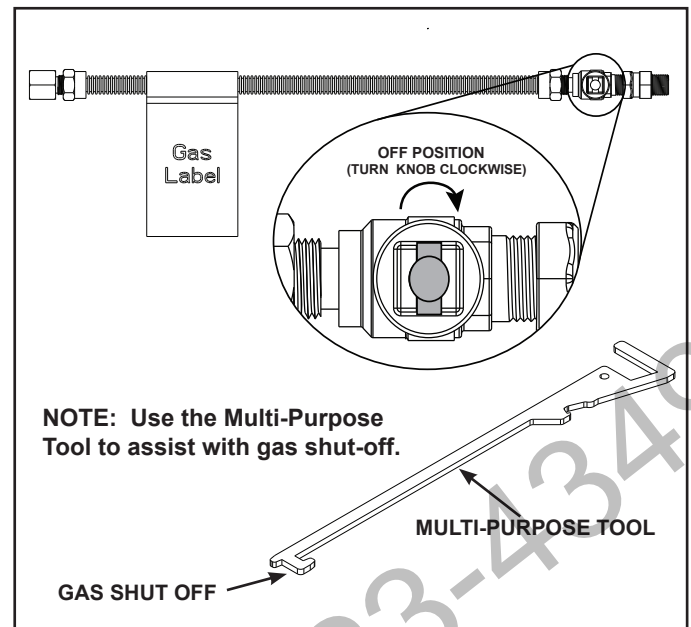

Figure 3 Gas Shut-off Detail
8. Turn off gas to valve. Red gas shutoff knob is located on ball valve. See Figure 3.
20. Turn on gas to valve. Red gas shutoff knob is located on ball valve. See Figure 3.